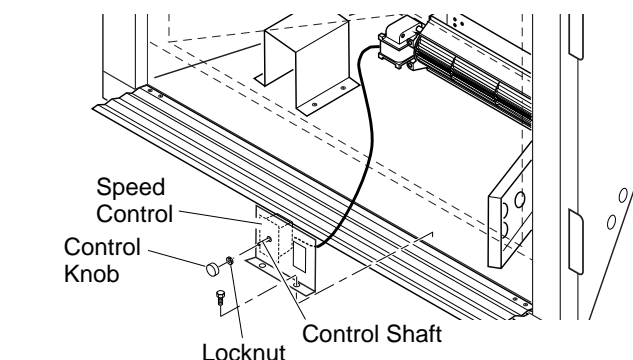

Figure 32 - Attaching Speed Control to Firebox
5. Place speed control against back of this plate and push the plastic control shaft through opening (see Figure 32, page 17).
6. While supporting speed control, secure control shaft with lock nut by pushing and turning lock nut with pliers clockwise until tight against the plate. Place control knob provided onto shaft (see Figure 32, page 17).